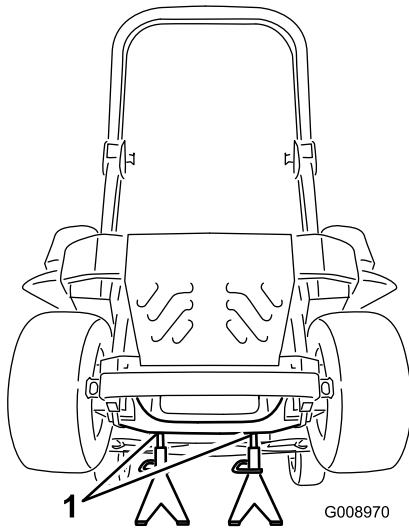

Figure 101
3. Raise the machine and support it with jack stands (Figure 101).
9. Remove the jack stands and lower the machine (Figure 101).